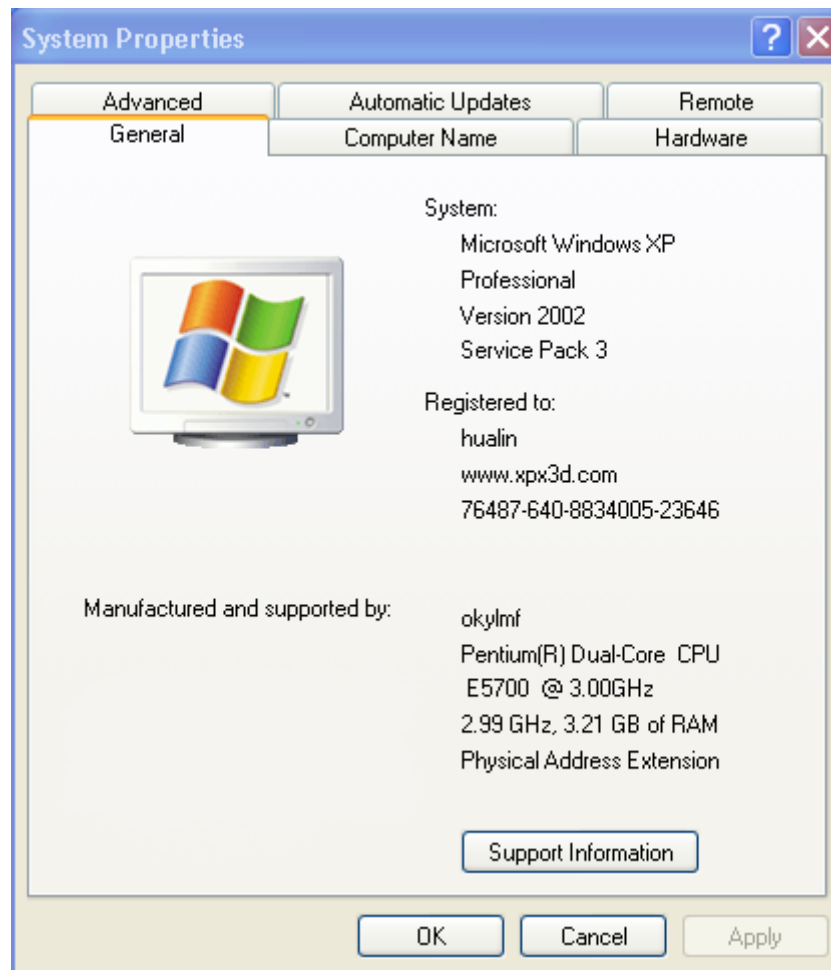
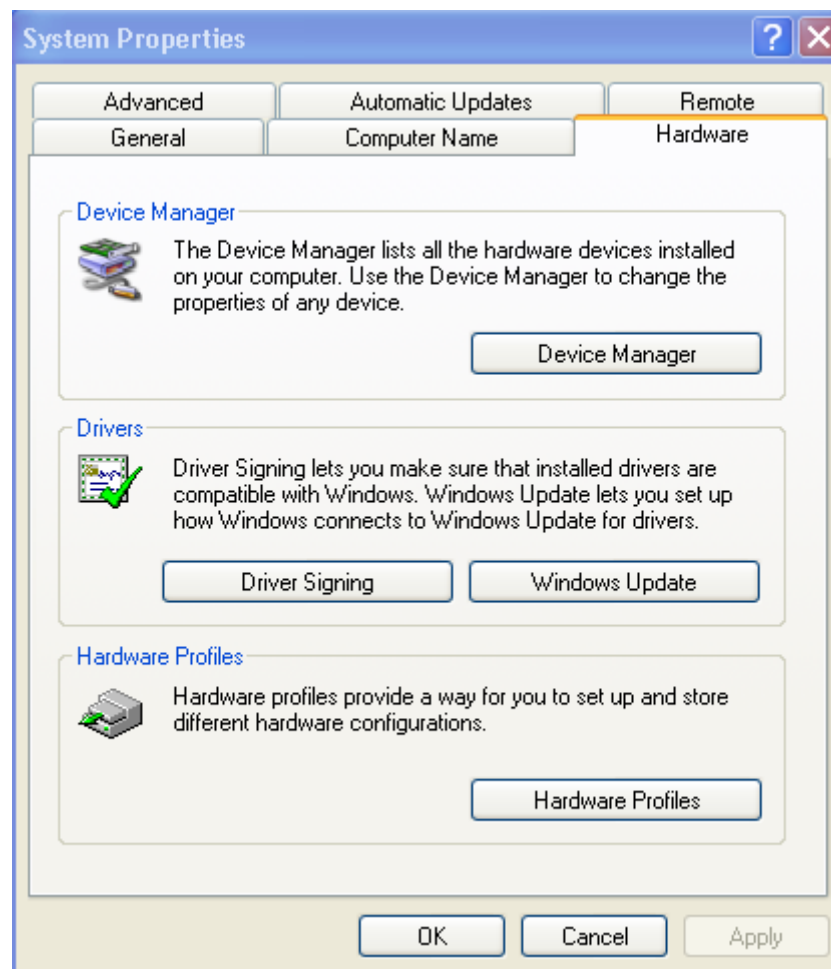
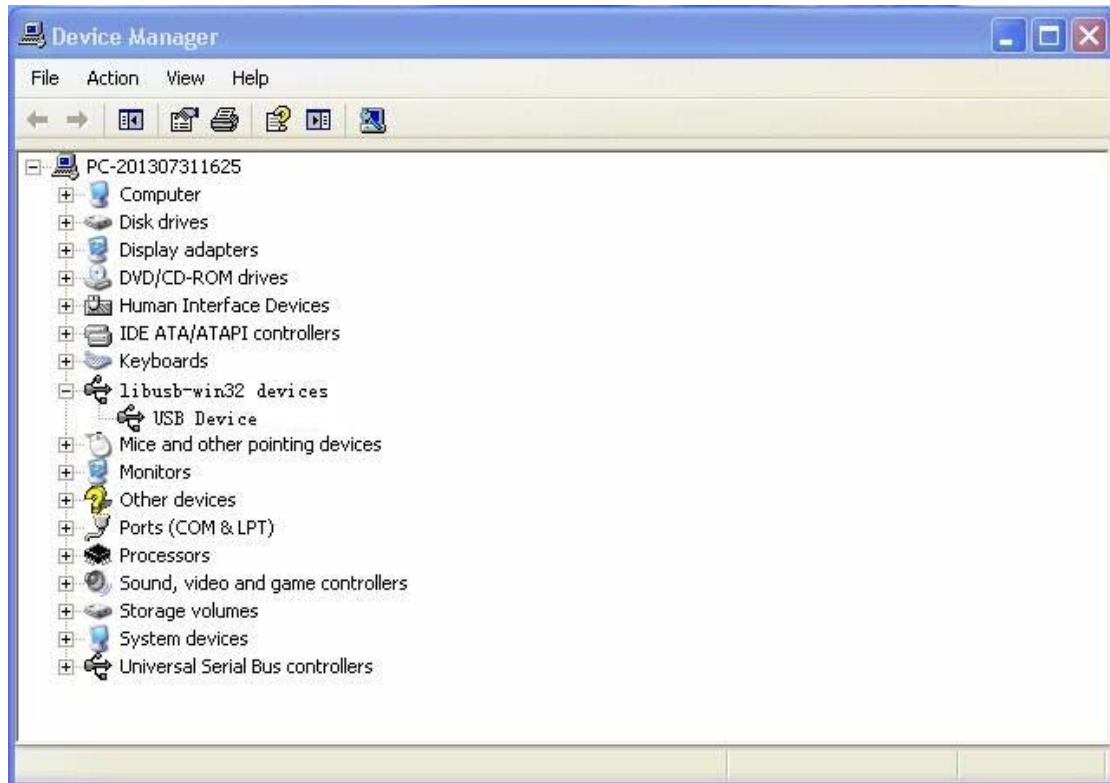

Figure 3-3
Figure 3-4
Figure 3-5
in Figure 3-3.
(3) Choose “Hardware” item in the Figure 3-3, then the window in Figure 3-4 displays:
(4) Click “Device Manager (D)” in Figure 3-4 to pop up the window in Figure 3-5.
(5) Delete “USB Device” item under “libusb-win32 devices” option in Figure 3-5, after that, repower the Generator and reinstall the driver again.